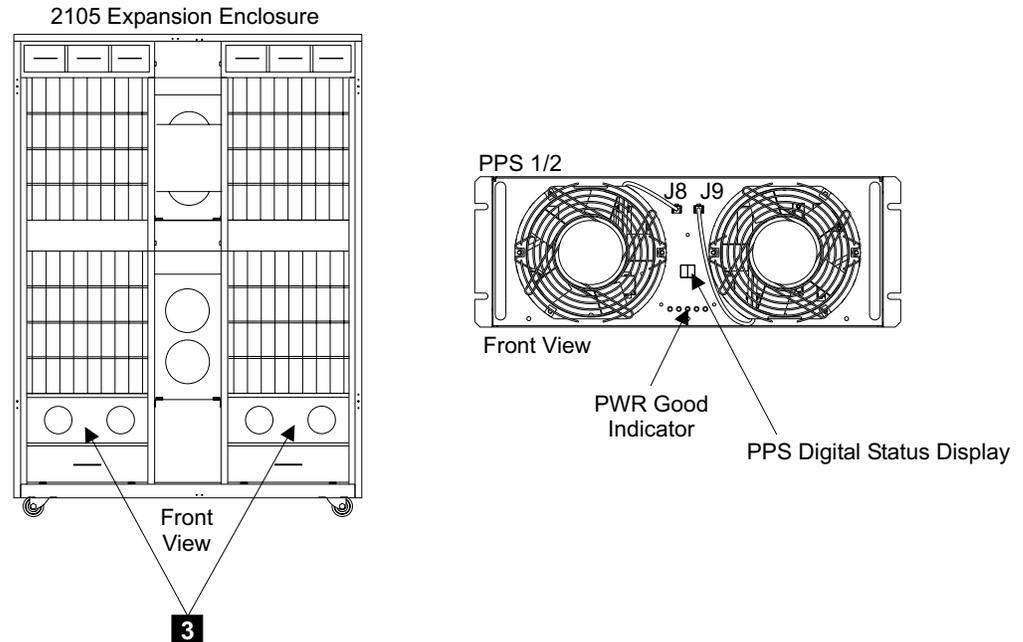

Figure 293. Primary Power Supply (S008668n)
- ___ 9. Go to the front of the 2105 Expansion Enclosure. Verify that the PWR Good indicator, **3** in Figure 293, on the front of both primary power supplies 1 and 2 is on. **Perform the action described in table Table 31 on page 298.**
- ___ 11. Verify that the digital display, **4** in Figure 293 on page 297, on the front of primary power supplies 1 and 2 is blank.